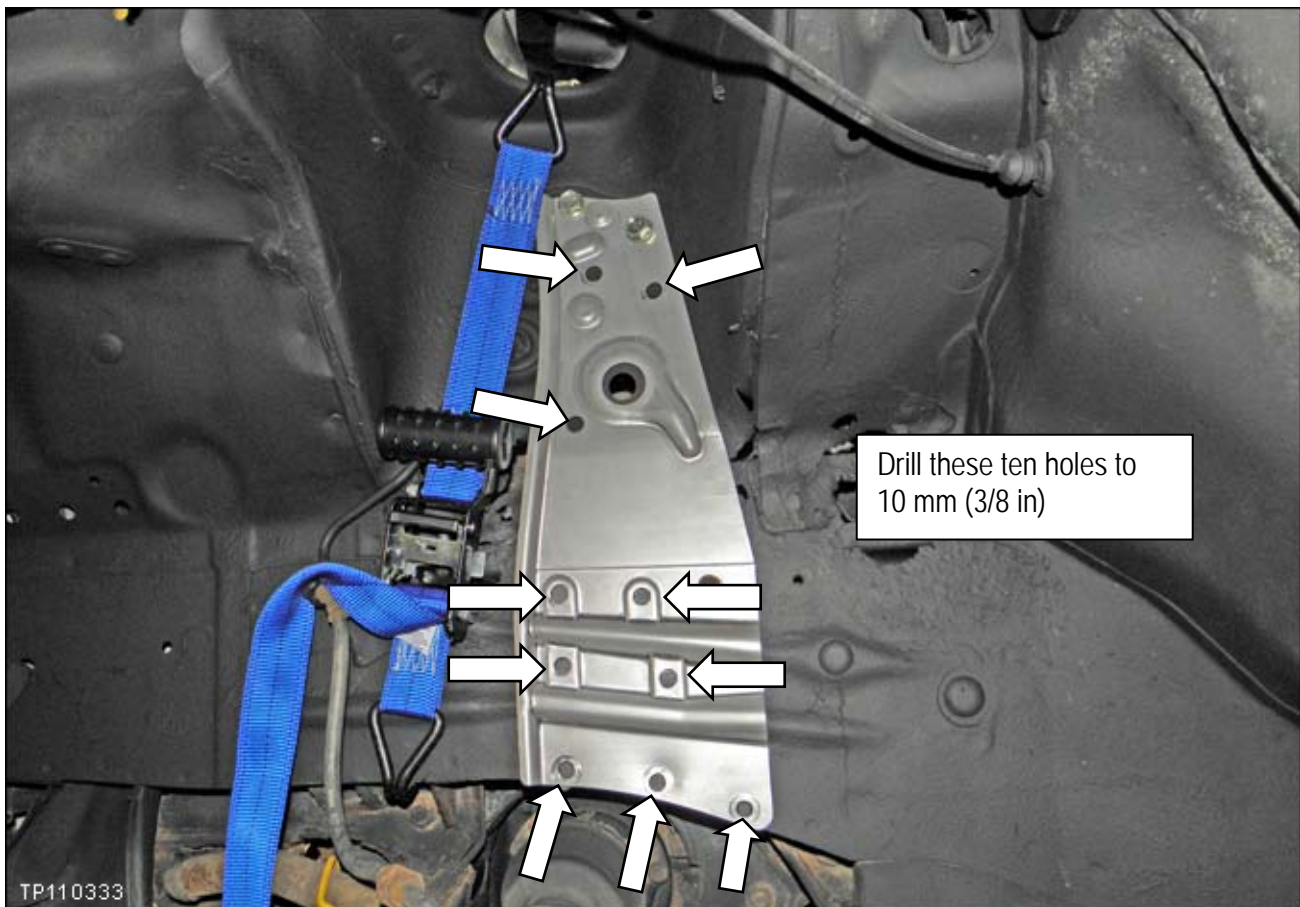

Figure RB9
19. Drill the 10 holes marked in Figure RB9 to 10 mm (3/8 in).